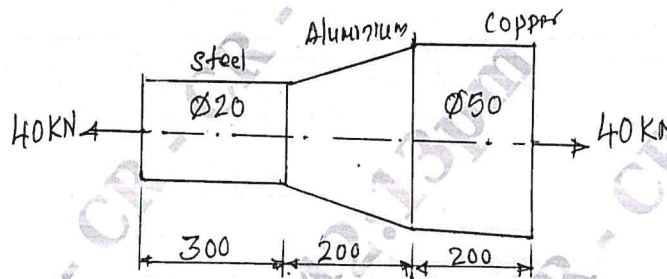

Fig.Q.1(b)
- A stepped bar is subjected to an axial load is shown in Fig.Q.1(b). Determine the change in length of the bar. Take $E = 200\text{GPa}$ for steel, $E = 70\text{GPa}$ for Aluminium and $E = 100\text{GPa}$ for copper. All dimensions are in mm. (08 Marks)